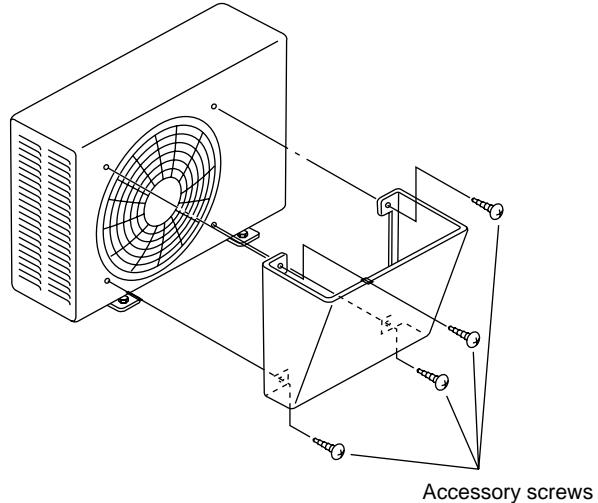

Fig.6e
1. Install with the 4 accessory screws as shown below. (Fig.6e)
(5) Precautions for manufacture and installation